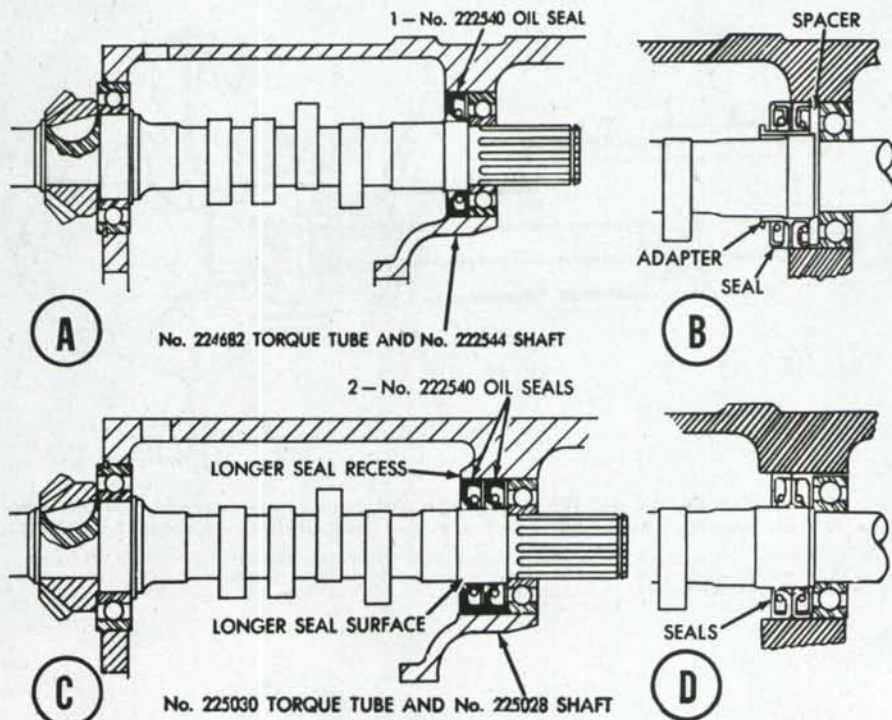

Fig. AC85—Various arrangements used for sealing rear of engine clutch shaft on Model WD. Model WD45 installation is shown in view D.
Fig. AC84—Models WD and WD45 engine clutch shaft. Coupling flange (1) is used only when tractor is not equipped with transmission clutch. Coupling sleeve (15) is used on tractors which have neither a transmission clutch nor a power take-off. Refer to Fig. AC85 for various versions or rear oil seals (13). Beginning with WD engine W310920 and all WD45, the clutch shaft has no pilot bushing or bearing (10).
Clutch shaft single or double rear oil seal (13) can now be renewed as per Fig. AC85. The clutch shaft front oil seal (9) can be renewed at this time after removing the clutch housing lower inspection plate and release bearing guide sleeve. Install front oil seal with lip facing transmission.